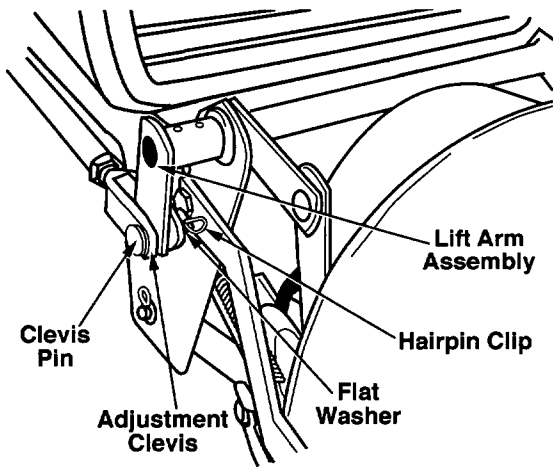

Figure 22
11. Insert the clevis pin (2-14) through the adjustment clevis and outer lift arm, and secure with the flat washer (2-15) and hairpin clip (2-16) as shown in Figure 22.
2. Referring to Figure 22, disconnect the adjustment clevis/lift tube assembly from the snow thrower lift arm by removing the hairpin clip, flat washer and clevis pin.